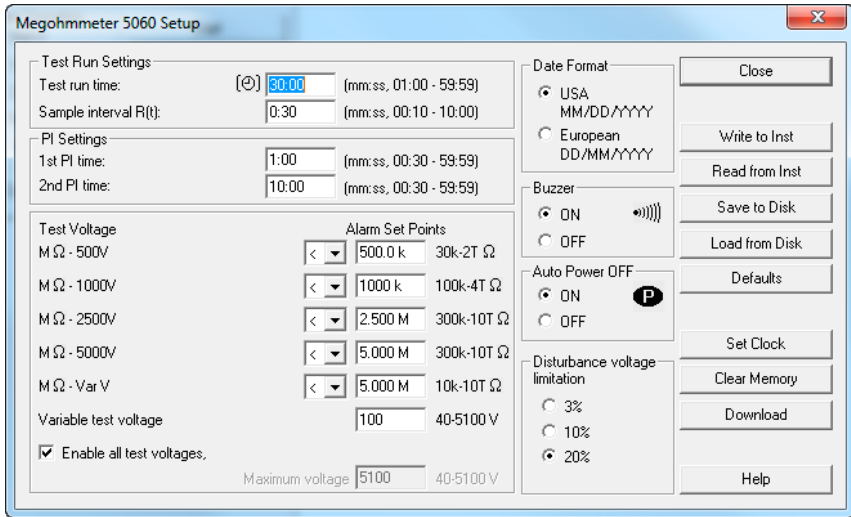

Figure 7-6
- DataView® will open and the **Connection** window will appear (see Figure 7-6).